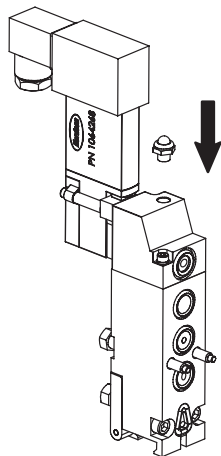

Figure 27 Installing a silencer
21. See Figure 27. If applicable, use an 8-mm wrench to remove the existing solenoid valve silencer.